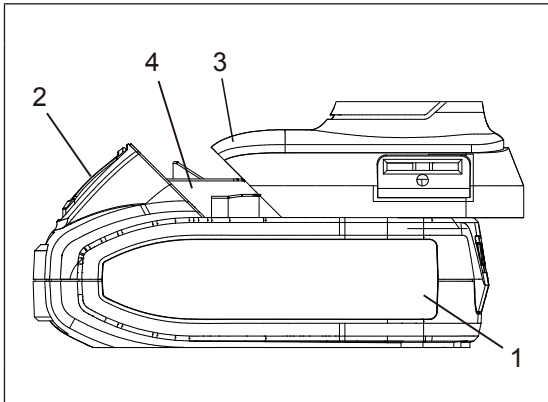

FIG. 3
1. Remove the discharged battery (1) from the impact driver by pressing downward on the battery release button (2) and sliding the battery backward until it is removed from the impact driver handle (3) (Fig. 3).
2. Slide the fully charged battery onto the matching keys (4) in the impact driver handle where the discharged battery has been removed.
NOTE: See Fig. 3 for complete procedure.